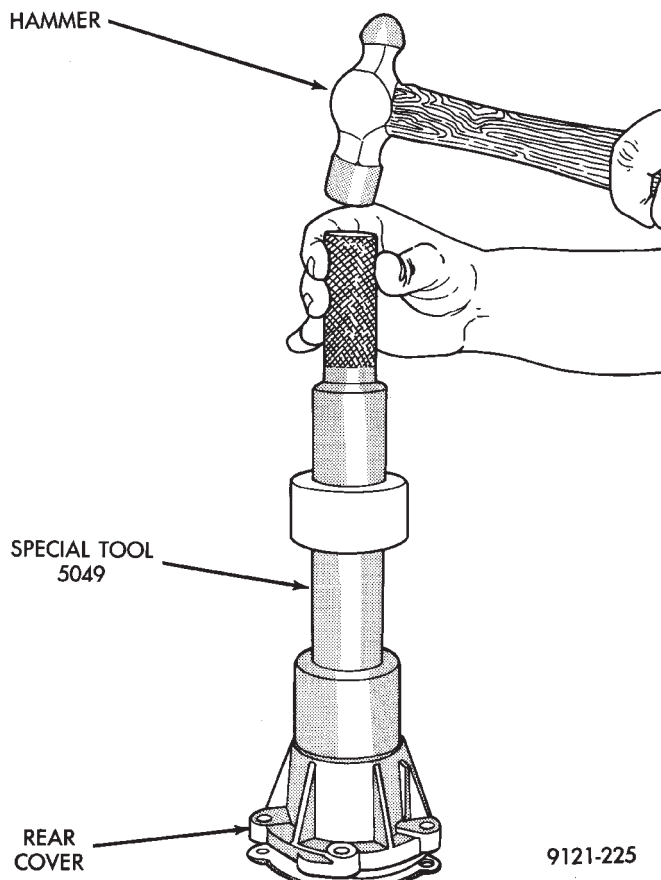

Fig. 11 Seal Installation
- (1) Install new seal with Seal Installer 5049 (Fig. 11).
- (2) If the original flange is used, align index marks and press flange onto pinion. If a new flange is used disregard the alignment marks on the pinion and press flange onto the pinion.
- (3) Install flange nut and tighten to 163 N•m (120 ft. lbs.).
- (4) Install rear cover. Use care not to cut rear cover O-Ring when installing rear cover into P.T.U. housing.